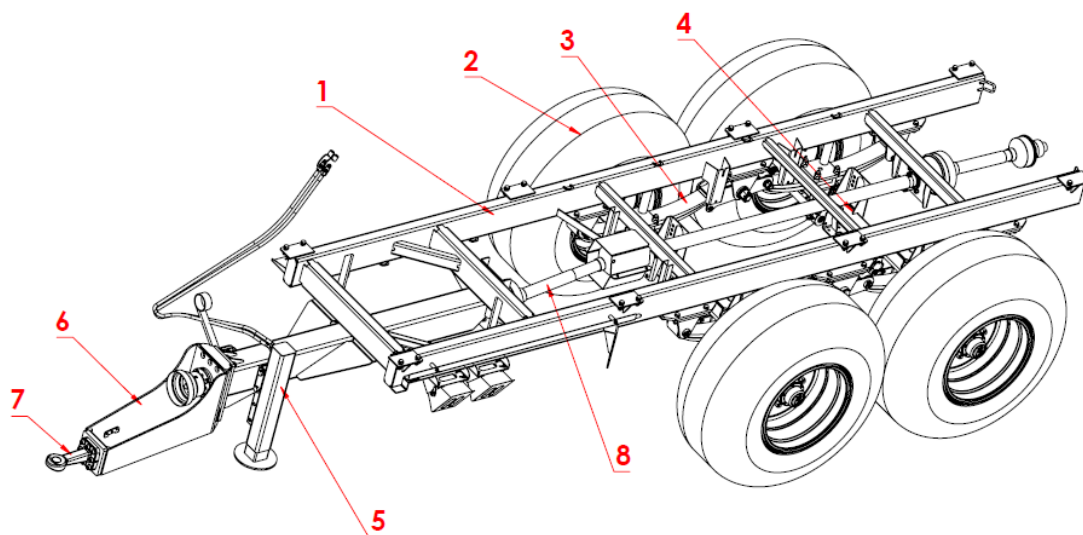

Figure 4.2. Spreader's chassis
The bottom frame (fig. 4.2, item 1) is a welded construction consisting of two stringers joined by cross-bars, and the drawbar beam.